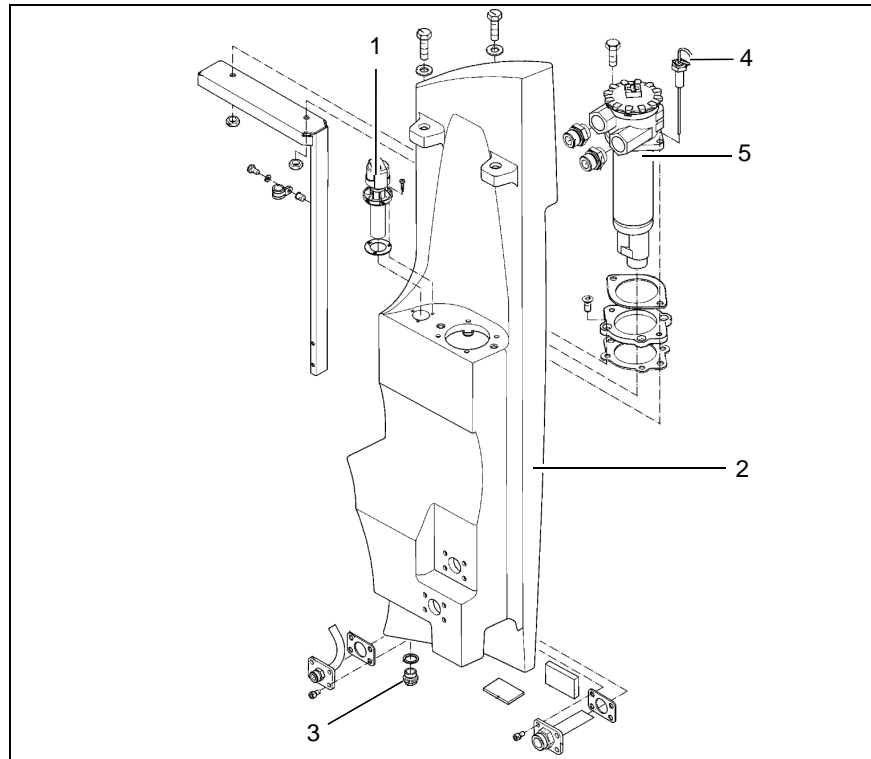

Fig.18
2. Check the engine oil level with the oil dipstick (Fig. 18/4).
3. Remove the cap (Fig. 18/1).
4. Do not pour in too much oil at one time. Allow the oil a few minutes to run into the hydraulic oil tank (Fig. 18/2). Then measure the oil level again.
2. Place a suitable collecting vessel under the drain plug (Fig. 18/3) of the hydraulic oil tank.
2. Unscrew the hydraulic oil filter (Fig. 18/5).